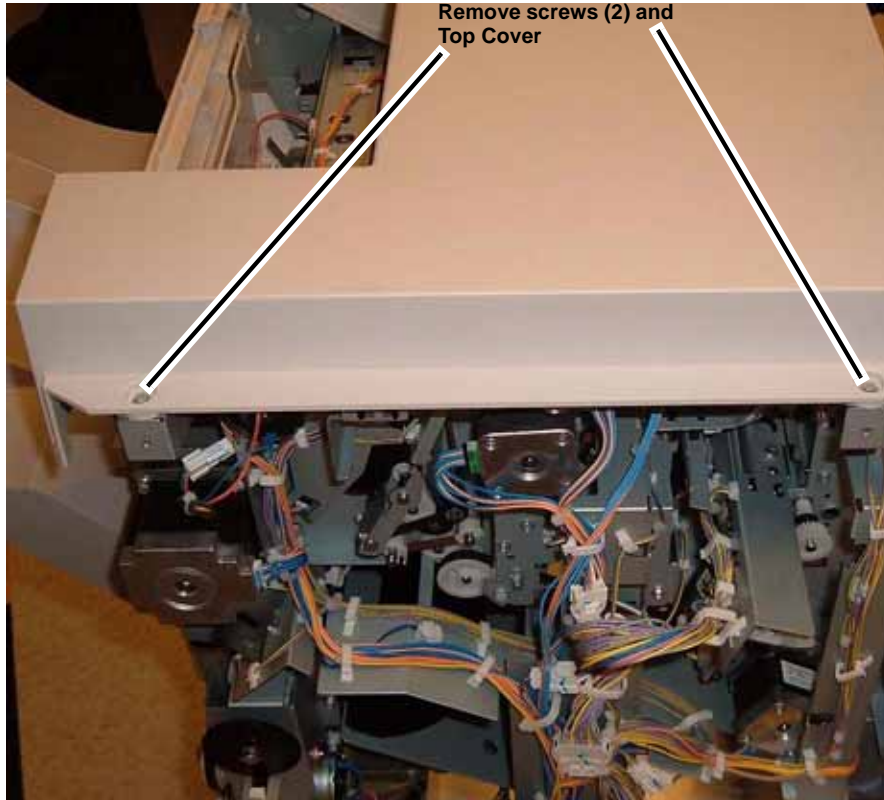

Figure 2 Removing the Top Cover
7. Remove the Top Cover (Figure 2).